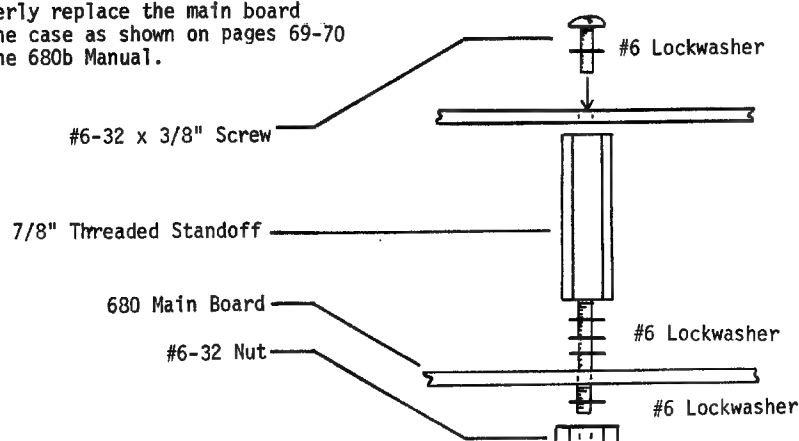

Figure 3-12. Installation of Threaded Standoffs onto 680b Main Board
B. Installation of Threaded Standoffs onto 680b Main Board (Figure 3-12)
2. Referring to Figure 3-12, insert a 6-32 x 7/8" threaded standoff with three #6 lockwashers (Bag 6) in the mounting hole provided on each side of the main board.
4. Secure the board in place by inserting a 6-32 x 3/8" screw with a #6 lockwasher into the top of each of the threaded standoffs as shown in Figure 3-12.